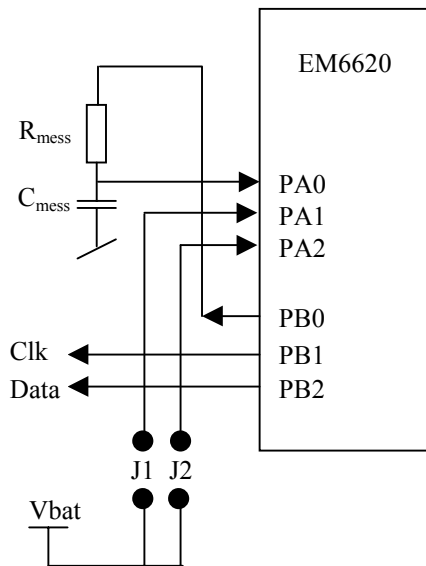

Figure 1.
With the following schematic diagram (figure 1) 12, 13 and 14 bit resolution can be tested. The resolution is selected with the jumper at pos. 1 or 2 or no jumper.